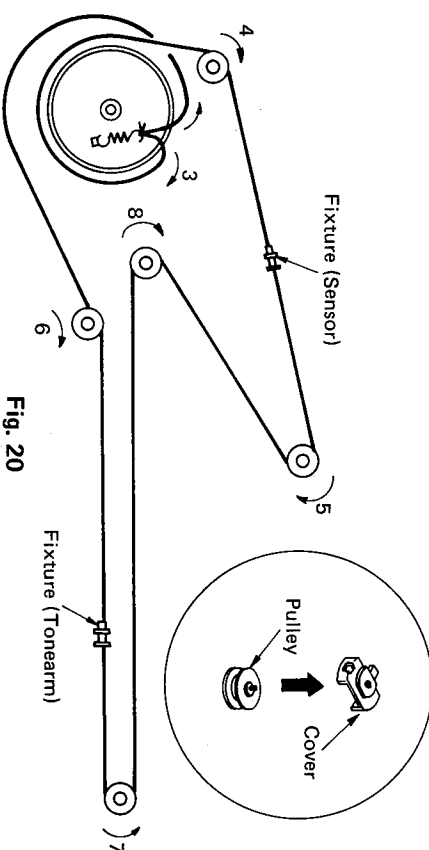

Fig. 20
5. Holding the rope with the hand, set the drive wheel and rope in the order of 3 ~ 8 of Fig. 20.